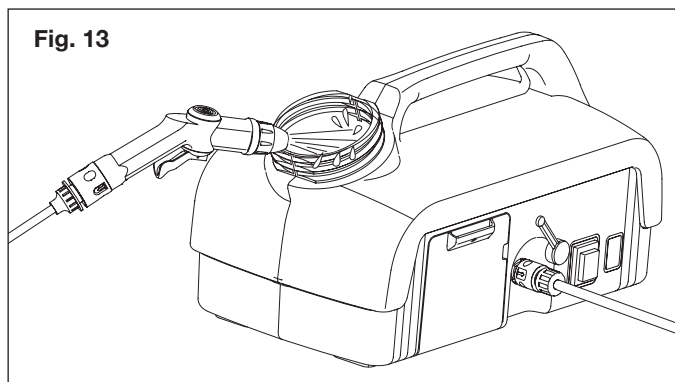

Fig. 13
2. With the water tank cap removed and spray gun pointing into the water tank, squeeze the trigger and start the machine (Fig. 13).